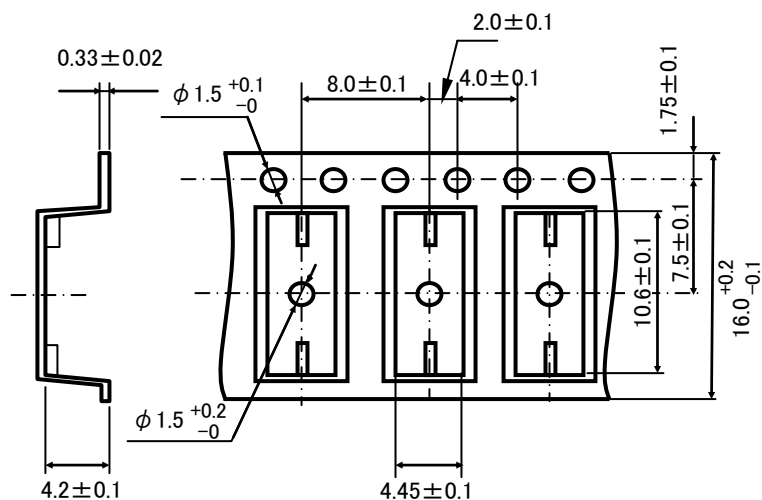

Figure 2 Tape Forms
(2)Dimensions: The tape dimensions are as shown in Figure 2.